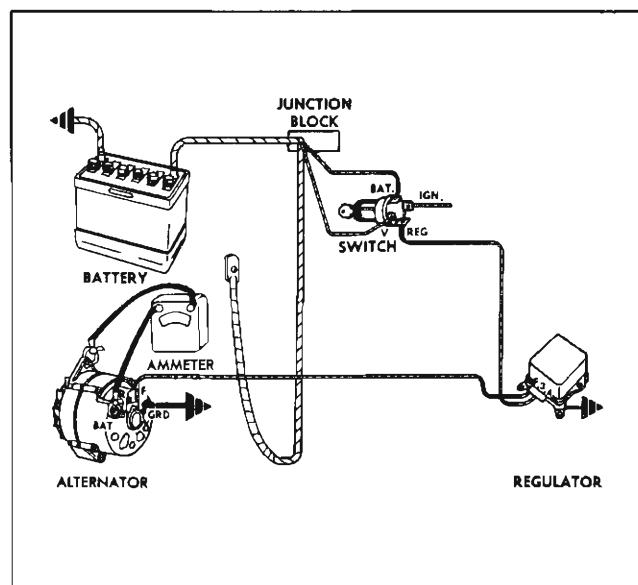

Fig. 11-26 Ammeter Measuring Output
5. Move ammeter lead from positive battery terminal to alternator frame (Fig. 11-26). Start engine and increase to 2500 rpm.